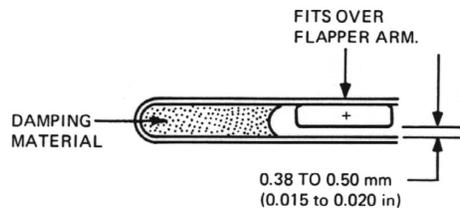

Figure 15.
10. Reinstall motor pivot plate and hex columns. Adjust motor pivot screw to remove all end play (approximately 1/8 to 1/4 turn interference) and lock in place. Reconnect spring on motor bracket. Reinstall flapper on flapper arm maintaining gap as shown in Figure 15.
Flapper contains damping material as shown in Figure 15. If damping material is removed, converter operates erratically.